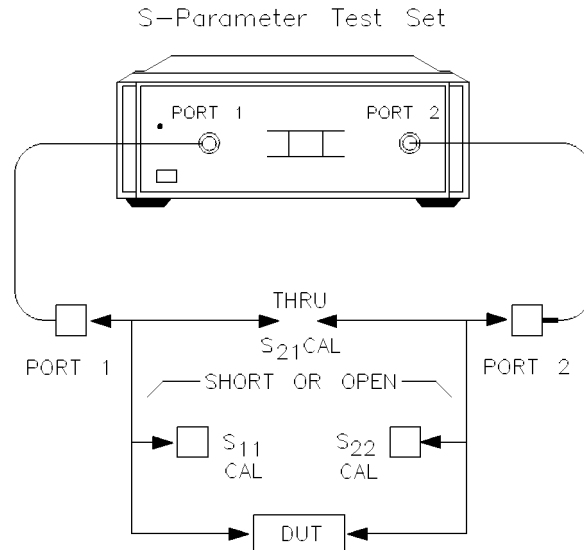

Figure 2-2. Measurement Sequence 1, Test Setup
Refer to Figure 2-2 for the instrument setup used in this example. For S-parameter test sets, the calibration and device measurements use a matched set of test port return cables.
1. Connect the device under test between Port 1 and Port 2 as shown in Figure 2-2.